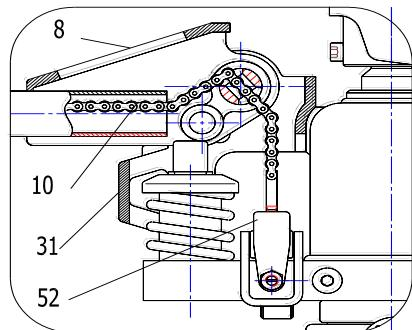
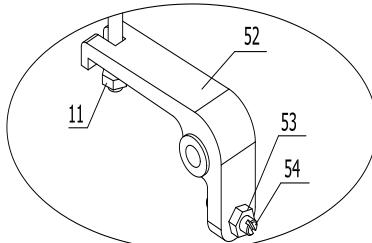

Fig.2
Fig. 4
3.4 Cross the chain 10 of the Handle Tube through the hole of the pin shaft 23. Please refer to Fig.2.
3.5 Put the Screw and nut at the end of chain 10 into the slot of the lever plate 52. Please refer to Fig.2 and Fig.4.
4.2 The screw 53 in fig 4 is used to adjust